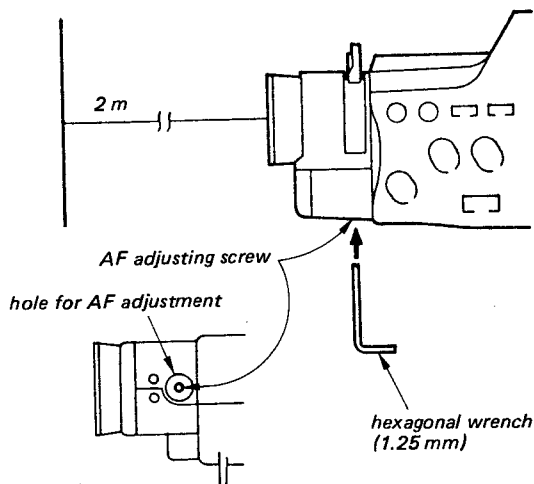

Fig. 1-35
- 3) Insert the hexagonal wrench to the hole on the bottom of the set, and focus with turning the AF adjusting screw. (See Fig. 1-35.)
- 5) When overrunning the focus, repeat items 3) and 4).